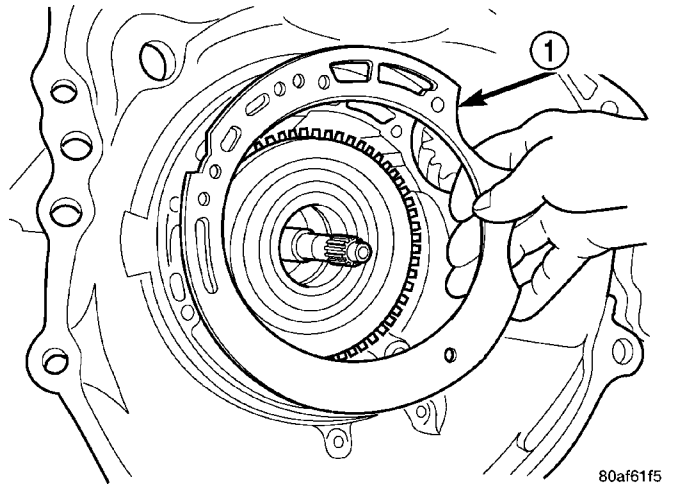

Fig. 32 Remove Oil Pump Gasket
(18) Remove oil pump gasket (Fig. 32).